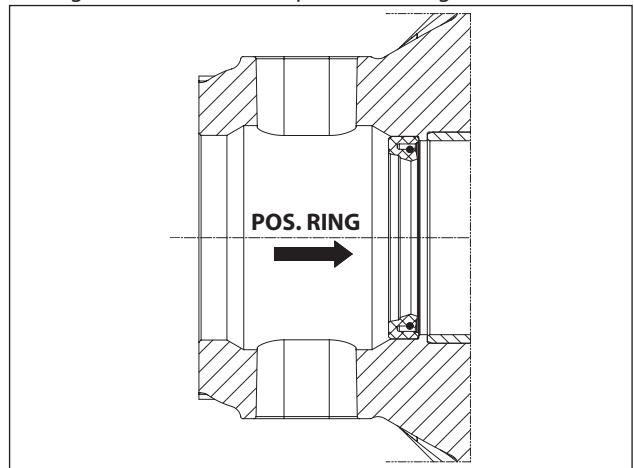

Fig. 11
- Insert the new piston guide seal rings as far as possible into the relative seat on the pump casing (Fig. 11), following the procedure described: use tools code 25027100 and code 27936600 composed of a tapered bush and a buffer. Screw the tapered bush into the hole in the piston guide (Fig. 11/a), insert the new seal ring on the buffer as far as it will go (determined by the height of the buffer) into its seat on the pump casing (Fig. 11/b), remove the tapered bush (Fig. 11/c).